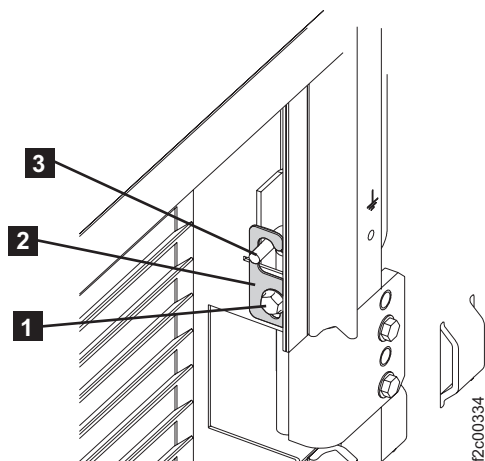

Figure 62. Removing rear left cover on Rack-1
- c. On the upper and lower door hinges, loosen the screw **1** and move the retention plate **2** that prevents the hinge pin **3** from being removed. Refer to Figure 62.